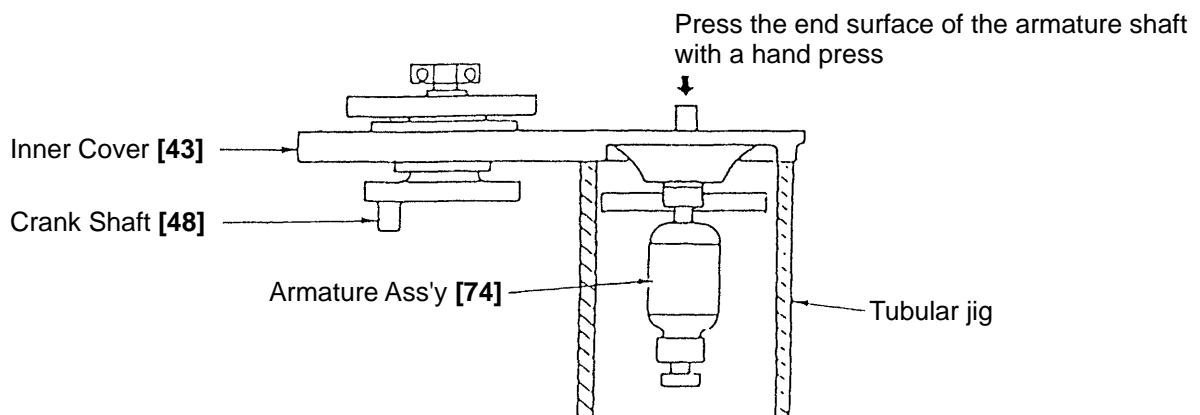

Fig. 13
- (1) Loosen the four M4 x 12 Seal Lock Hex. Socket Hd. Bolts [51], remove the Cap Covers [52], Cap Rubbers [53] and Brush caps [54], and take out the Carbon Brushes [55]. At this time, be very careful not to lose the disassembled parts.
- (2) Loosen the four M8 x 35 Nylock Hex. Socket Hd. Bolts [25], and remove the Cylinder Case [18]. Next, after loosening the M8 x 16 Seal Lock Hex. Socket Hd. Bolt [35], the Connecting Rod Ass'y [29] and Crank Washer [34] can be disassembled. Leave the Striker [22] and Piston [28] as they are.
- (3) Loosen the four M5 x 16 Seal Lock Hex. Socket Hd. Bolts [60], and take off Handle (A) [81] and Handle (B) [86]. Next, loosen the six M6 x 45 Seal Lock Hex. Socket Hd. Bolts [57], and disassemble the Gear Cover [39] and Counter Gear [62]. Then, by inserting a flat-blade screwdriver or similar tool into one of the air vents of the Inner Cover [43] and lifting it upwards, the Inner Cover [43], Armature Ass'y [74], Crank Shaft [48], and related parts can be removed in a single body.
- (4) As illustrated in Fig. 13, support the Inner Cover [43] with an appropriate tubular jig, and push down on the end surface of the armature shaft with a hand press to separate the Armature Ass'y [74] from the Inner Cover [43].